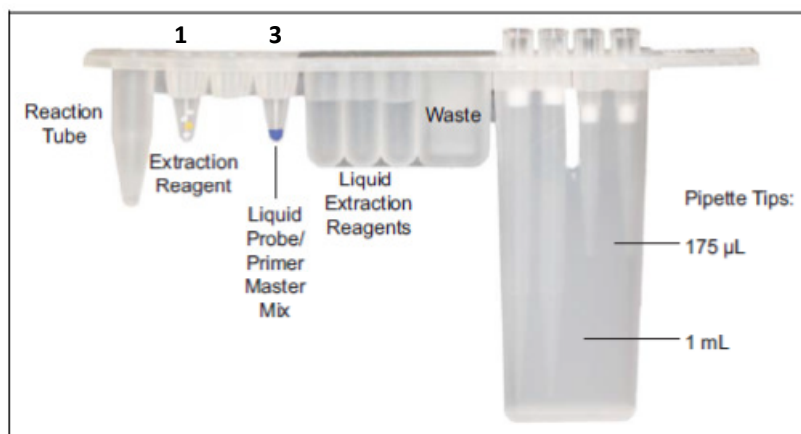

Figure 1: DNA Unitized Reagent Strip setup.
- 2.2.a. Snap a DNA extraction BD Exk-1 Reagent tube (white seal) into position **1** of the DNA Strip, see Figure 1.
- 2.2.b. Snap a CPE Screen reagent tube (blue seal) into position **3** of the DNA Strip, see Figure 1.